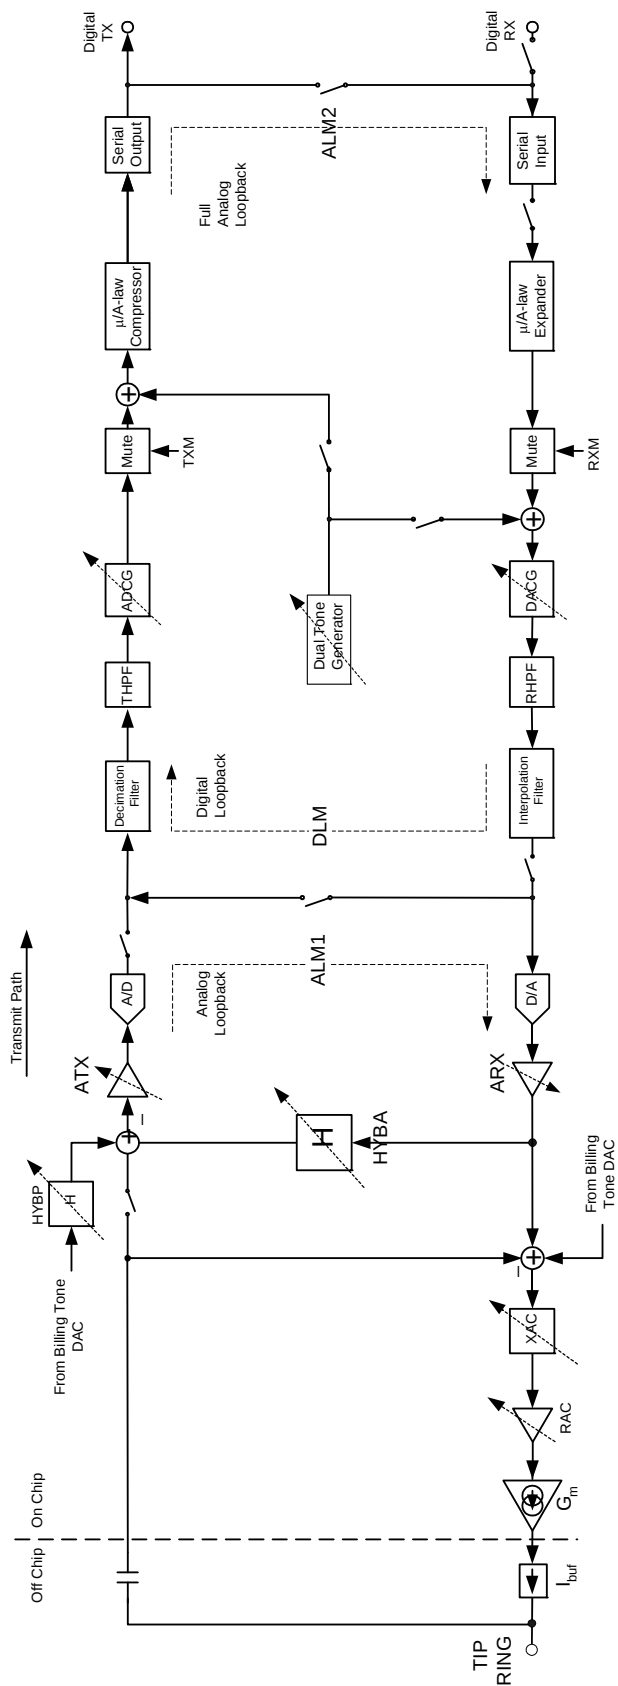

Figure 22. AC Signal Path Block Diagram
Unlike traditional SLICs, the codec function is integrated into the ProSLIC. The 16-bit codec offers programmable gain/attenuation blocks and several loop-back modes. The signal path block diagram is shown in Figure 22.
The block diagram for the voice-band signal processing paths are shown in Figure 22. Both the receive and the transmit paths employ the optimal combination of analog and digital signal processing to provide the maximum performance while, at the same time, offering sufficient flexibility to allow users to optimize for their particular application of the ProSLIC. All programmable signal-processing blocks are symbolically indicated in Figure 22 by a dashed arrow across them. The two-wire (TIP/RING) voice-band interface to the ProSLIC is implemented using a small number of external components. The receive path interface consists of a unity-gain current buffer, I_{BUF} , while the transmit path interface is simply an ac coupling capacitor. Signal paths, although implemented differentially, are shown as single-ended for simplicity.
The ProSLIC provides programmable transhybrid balance with gain block H. (See Figure 22.) In the ideal case where the synthesized SLIC impedance matches exactly the subscriber loop impedance, the transhybrid balance should be set to subtract a –6 dB level from the transmit path signal. The transhybrid balance gain can be adjusted from –2.77 dB to +4.08 dB around the ideal setting of –6 dB by programming the HYBA[2:0] bits of the Hybrid Control register (direct Register 11). Note that adjusting any of the analog or digital gain blocks will not require any modification of the transhybrid balance gain block, as the transhybrid gain is subtracted from the transmit path signal prior to any gain adjustment stages. The transhybrid balance can also be disabled, if desired, using the appropriate register setting.
- The full analog loopback (ALM2) tests almost all the circuitry of both the transmit and receive paths. The compressed 8-bit word transmit data stream is fed back serially to the input of the receive path expander. (See Figure 22.) The signal path starts with the analog signal at the input of the transmit path and ends with an analog signal at the output of
- An additional analog loopback (ALM1) takes the digital stream at the output of the A/D converter and feeds it back to the D/A converter. (See Figure 22.) The signal path starts with the analog signal at the input of the transmit path and ends with an analog signal at the output of the receive path. This loopback option allows the testing of the analog signal processing circuitry of the Si3215 completely independently of any activity in the DSP.
- The full digital loopback tests almost all the circuitry of both the transmit and receive paths. The analog signal at the output of the receive path is fed back to the input of the transmit path by way of the hybrid filter path. (See Figure 22.) The signal path starts with 8-bit PCM data input to the receive path and ends with 8-bit PCM data at the output of the transmit path. The user can bypass the companding process and interface directly to the 16-bit data.
Real and complex two-wire impedances are realized by internal feedback of a programmable amplifier (RAC) a switched capacitor network (XAC) and a transconductance amplifier (G_m). (See Figure 22.) RAC creates the real portion and XAC creates the imaginary portion of G_m 's input. G_m then creates a current that models the desired impedance value to the subscriber loop. The differential ac current is fed to the subscriber loop via the ITIPP and IRINGP pins through an off-chip current buffer (I_{BUF}), which is implemented using transistor Q1 and Q2 (see Figure on page 20). G_m is referenced to an off-chip resistor (R_{15}).